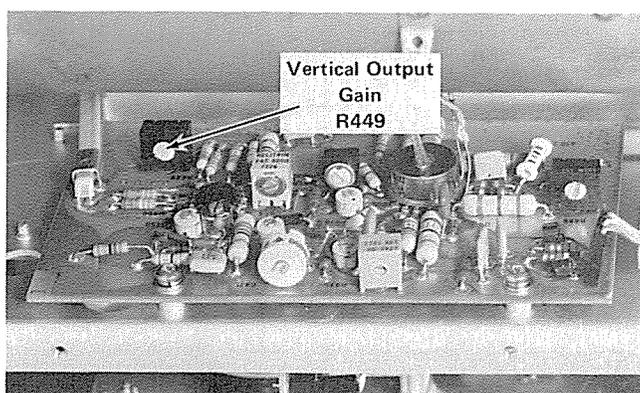

Fig. 5-13. Location of Vertical Output Gain adjustment.
- m. ADJUST—Vertical Output Gain adjustment, R449 (see Fig. 5-13) for 5 divisions of deflection.